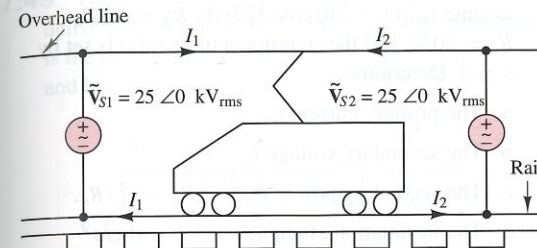

Figure P7.35
- 7.35** The French TGV high-speed train absorbs 11 MW at 300 km/h (186 mi/h). The power supply module shown in Figure P7.35 consists of two 25-kV rms single-phase AC power stations connected at the same overhead line, one at each end of the module. For the return circuits, the rail is used. The train is also designed to operate at a low speed with 1.5-kV DC in railway stations or under the old electrification lines. The natural (average) power factor in the AC operation is 0.8. Assume that the equivalent specific resistance of the overhead line is $0.2\text{ }\Omega/\text{km}$ and that the rail resistance can be neglected. Find: